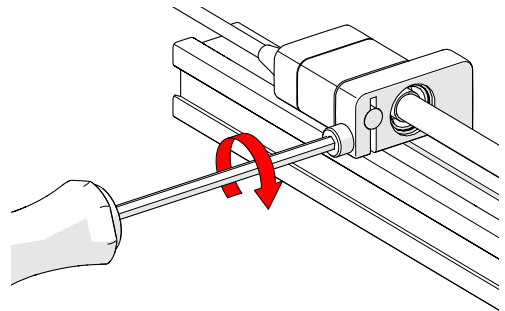

Fig. 66 - Tighten clamp screw
3. Tightening the 3 mm clamp screw on the index encoder support bracket (Fig. 66).